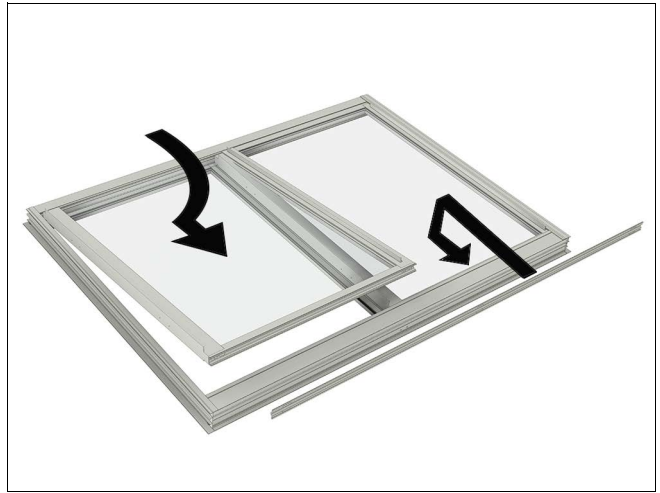

Figure 17
9. Reinstall the Sill Track, and then reinstall Operator Sash. See Figure 17.